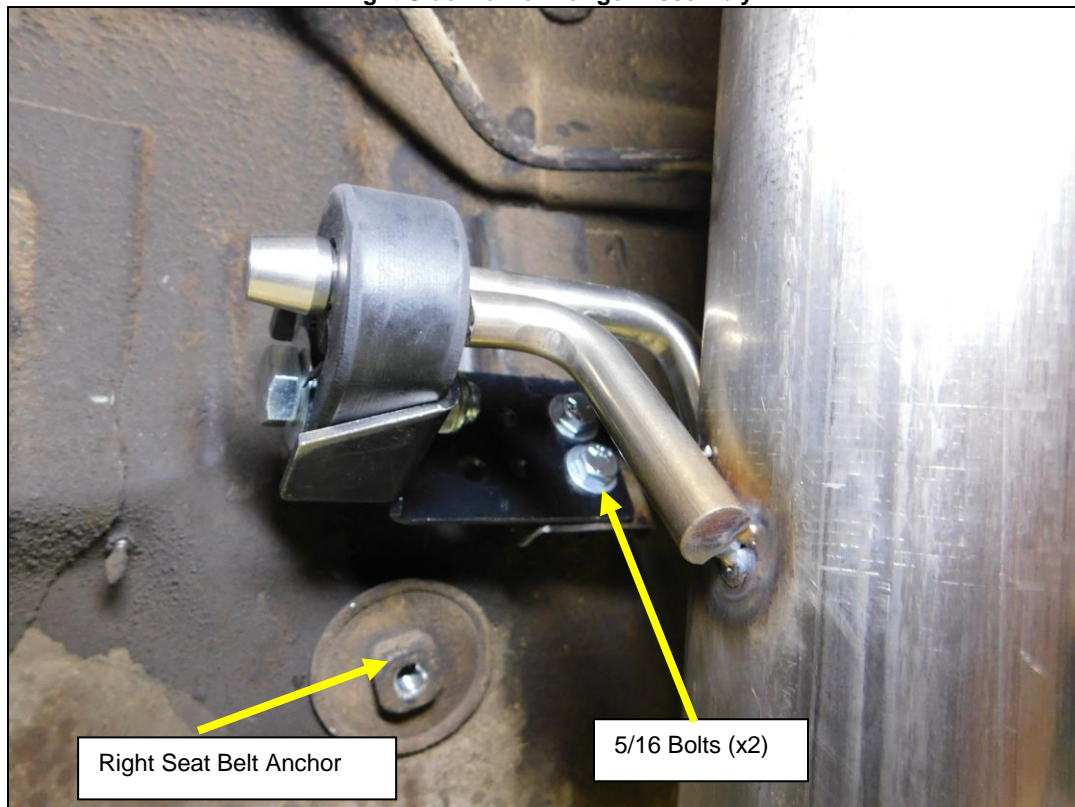

Figure 5
4. Install the Right (passenger's) muffler hanger bracket assembly on to the factory muffler hanger bracket location just above the seatbelt bolt. Install a flat washer on the back side of the factory mounting plate and install the 5/16 flange nuts. Adjust the bracket level and tighten the hardware (**Figure 5**).